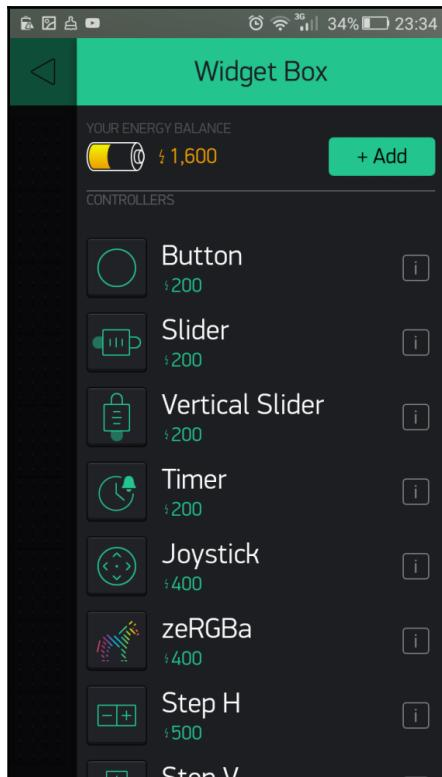

Figure 2.24: Adding the Joystick widget
6. Add a **Joystick** widget from the **Widget Box** section (*Figure 2.24*):